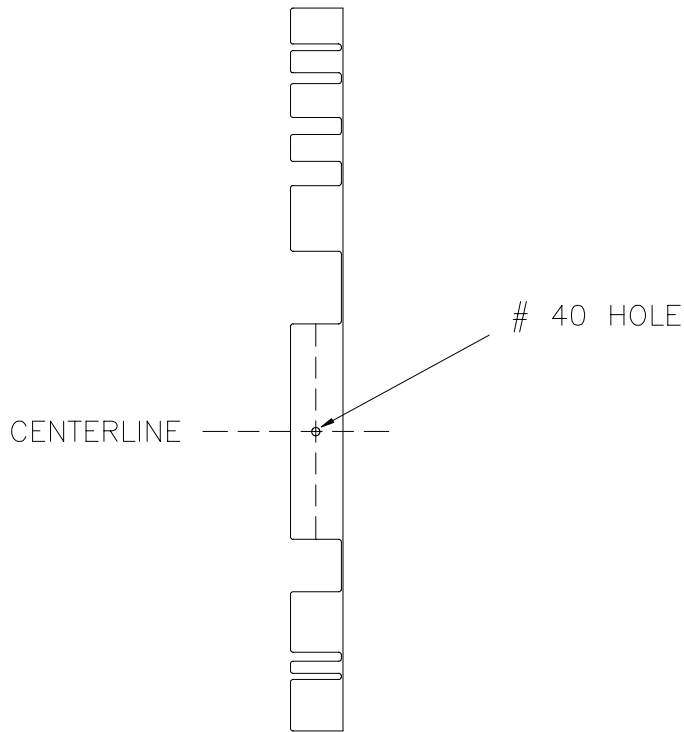

Figure 8.11.5
- 11) On each Leading Edge Rib drill a #40 hole in the center of the Front Spar Attach flange. **NOTE:** Do not drill the Leading Edge Root Rib. Figure 8.11.5.